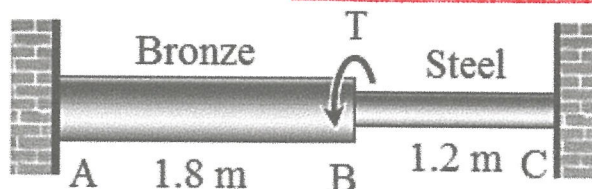

Figure Q4
- Q4.** The compound shaft shown in **Figure Q4** is attached to rigid supports. For the bronze segment AB, the maximum shearing stress is limited to 55 MPa and for the steel segment BC, it is limited to 83 MPa. For bronze, $G = 44$ GPa and for steel, $G = 75$ GPa. If a torque $T=16270$ Nm is applied as shown in the figure,